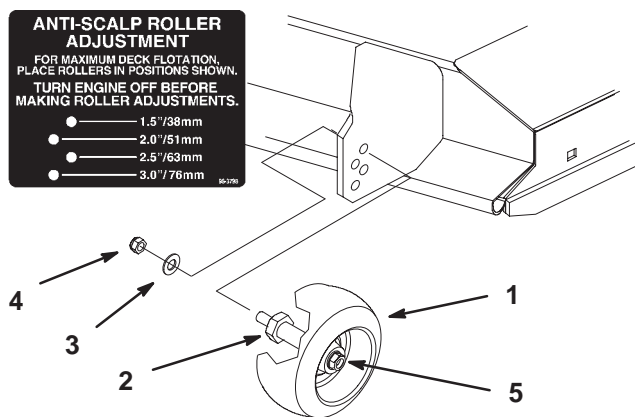

Figure 12
Note: Press on lift assist pedal when raising deck. This will help in lifting the deck (Fig. 12).
2. After adjusting height-of-cut, remove flange nut and spring disk while holding stud with wrench (Fig. 12).
Note: Do not remove the wheel nut and washer (Fig. 12).
3. Select hole so gage wheel is positioned to the nearest corresponding height-of-cut desired (Fig. 12).
4. Reinstall the flange nut and spring disk. Torque to 40–45 ft-lbs. (54.2–61.0 N•m) (Fig. 12).